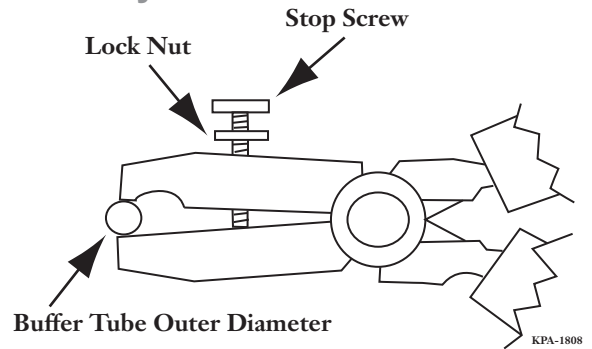

Figure 26
**Step 1:** To secure the buffer tube to the tray, adjust the stop screw on the crimping tool (p/n M67-020) so the jaws of the tool are equal to the outer diameter of the buffer tube (Figure 26).